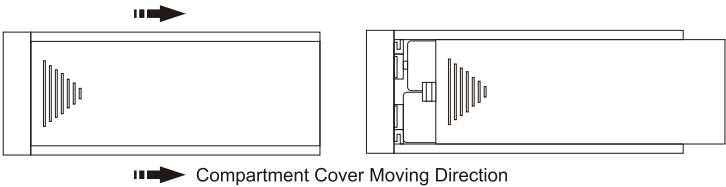

Figure 3 Removing the Compartment Cover
- ☐ Take out 4 AA batteries from inside of the box. Locate the battery compartment on the back of the door. Remove the cover as per Figure 3 in Page 3. Install the batteries into the compartment as per polarity marks indicated inside the compartment and replace the cover.
Remove the compartment cover in “Compartment cover moving direction” shown in Figure 3 and the old batteries, then, place new ones into the compartment correctly and replace the compartment cover.